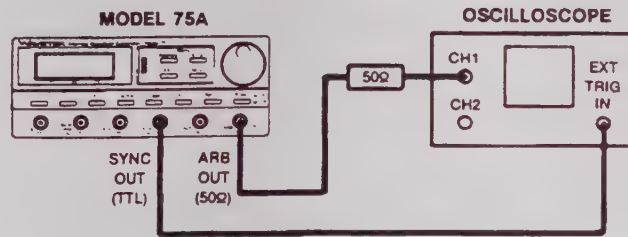

Figure 5-5. Output Waveform Verification Equipment Connection
- Interconnect the Model 75A and test equipment as shown in figure 5-5. Use the 50Ω termination with the carbon element in this step.